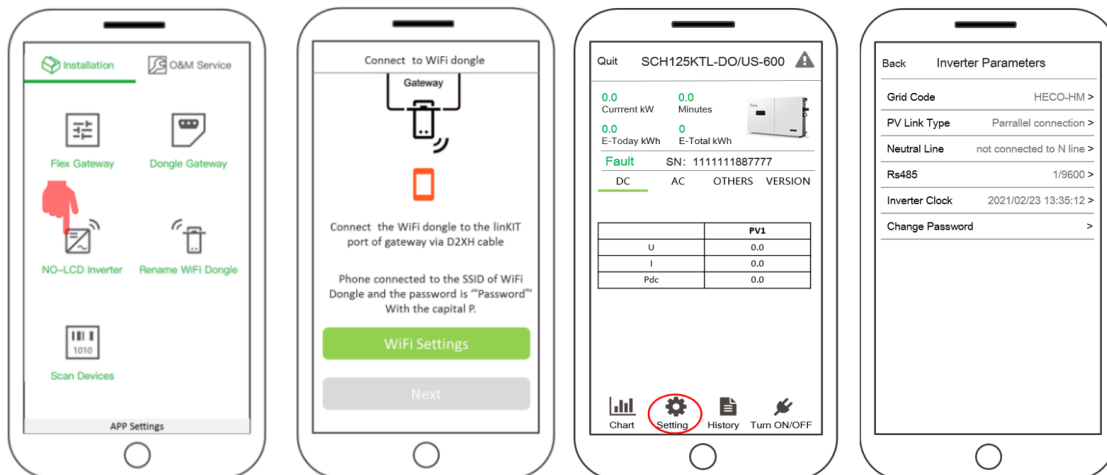

Figure 4-1 System Settings
5. Select the **Inverter Parameters** tab to set the grid code, PV link type, neutral line, RS485, and inverter clock (Figure 4-1):